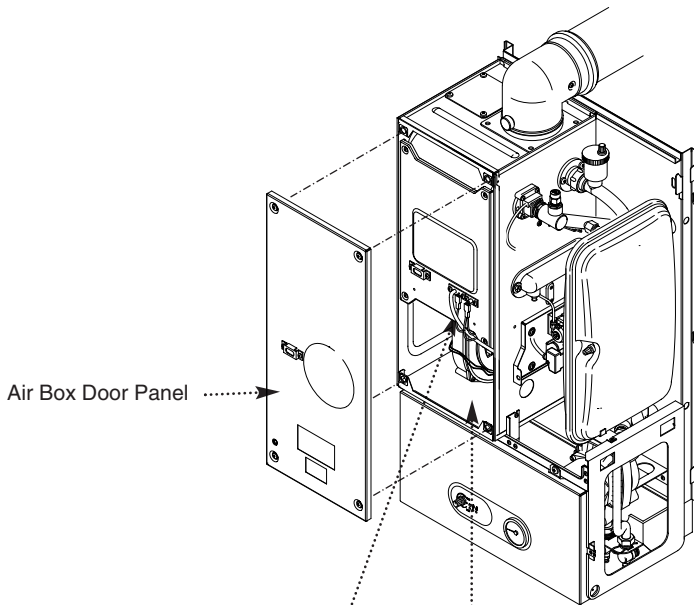

Fig. 63
1. Remove the airbox door panel by loosening the four $\frac{1}{4}$ turn screws (Fig. 63).